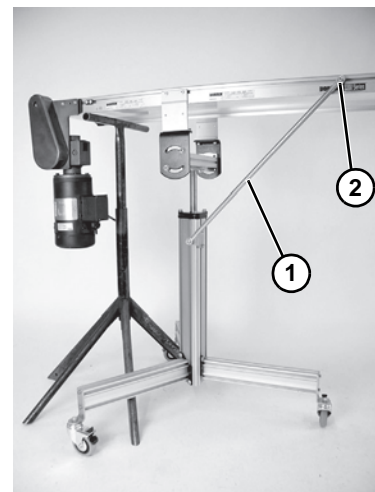

Figure 23
Failure to secure screw (**Figure 23, item 2**) may cause conveyor sections to drop down, causing severe injury.
TIGHTEN ALL SCREWS (Figure 23, item 2) AFTER ADJUSTMENT.
10. If installed, reattach brace (**Figure 23, item 1**) and tighten brace fastening hardware (**Figure 23, item 2**) to 100 in-lb (11 N-m).